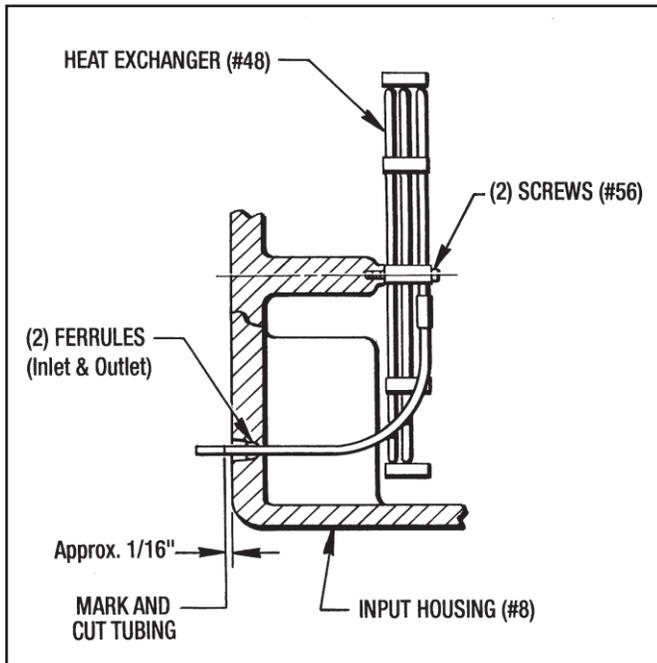

Figure 9.3 - Installing Water Cooled Heat Exchanger
(See Figures 9.3 and 10.4)
1. Guide the Heat Exchanger (#48) into the Input Housing, making sure that the tube ends project out the (2) holes in the rear face of the Housing. Attach with (2) Screws (#56).
2. Mark the tubing approximately 1/16" beyond the face of the housing. (See Figure 9.3).
4. Reinstall the Heat Exchanger back into the Housing. Apply Loctite #271 to the tubing O.D. Then place the (2) Compression Fittings with Ferrules (#71) on the tubing. (See Figure 9.3).